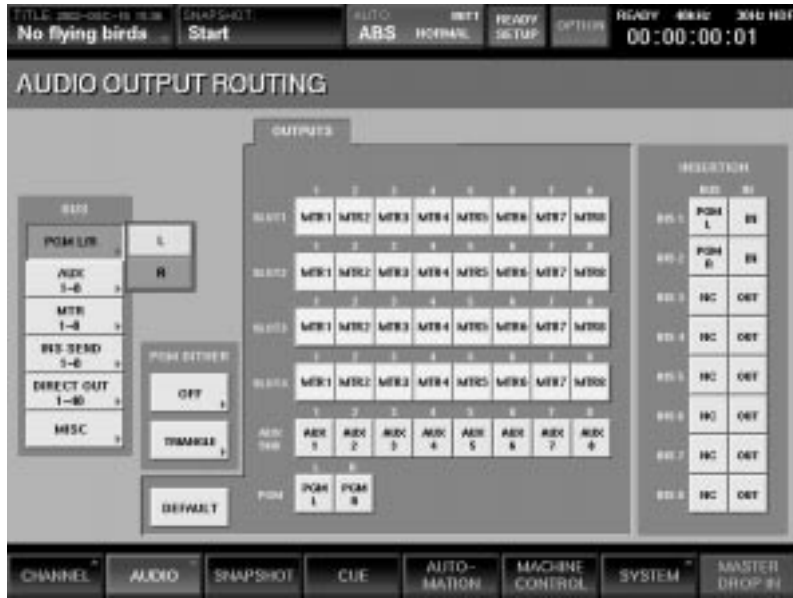

Figure 24
- Now press R in the Bus drop-down menu, and press INS 2 in the Insertion section. PGM R will be selected for Insert 2, which will be set IN. (See Figure 24)